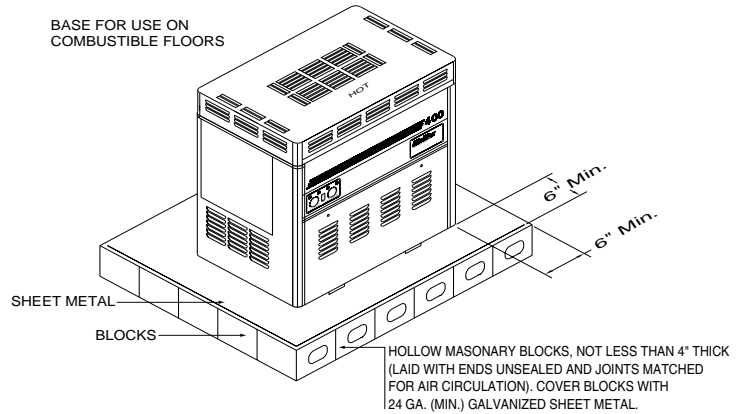

Figure 23.
- b) Construct a non-combustible base from masonry blocks as illustrated, see Figure 23.